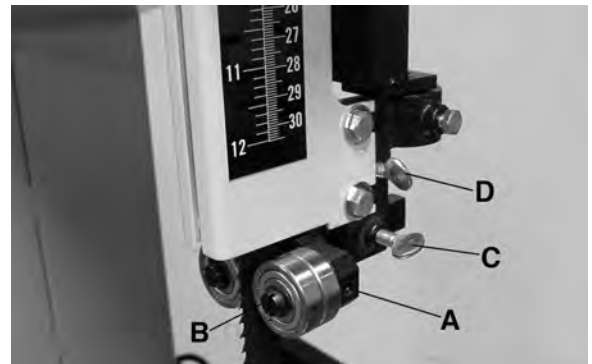

FIGURE 19
2. Loosen set screw (A) Fig.19 and using a flat screwdriver, turn screw (B) a quarter of a turn towards the inside to move the ball bearing to 0.02" (thickness of a sheet of paper) away from the blade. Retighten set screw (A).
4. Loosen thumb screw (C) Fig.19, move the ball bearing post until the ball bearings are at least 1/32" behind the blade teeth as shown in illustration in Fig.20. Retighten thumb screw.
5. Loosen thumb screw (D) Fig.19, move the upper thrust bearing (A) Fig.20 0.02" away from the rear of the blade as shown in illustration in Fig.20. Retighten thumb screw.